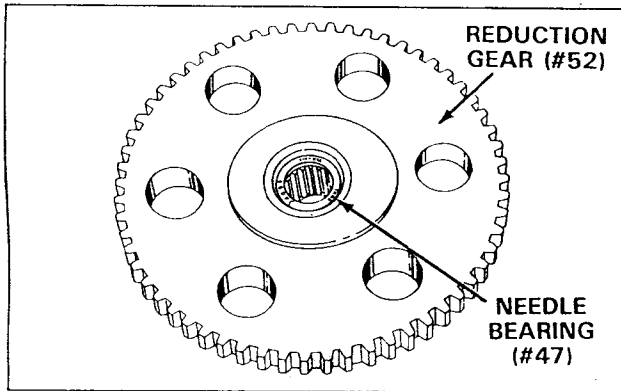

FIGURE 11
- 5.20 **Note:** Needle bearing (#47) must be positioned with the bearing numbers toward the 60 tooth side of the reduction gear (#52). See figure 11.